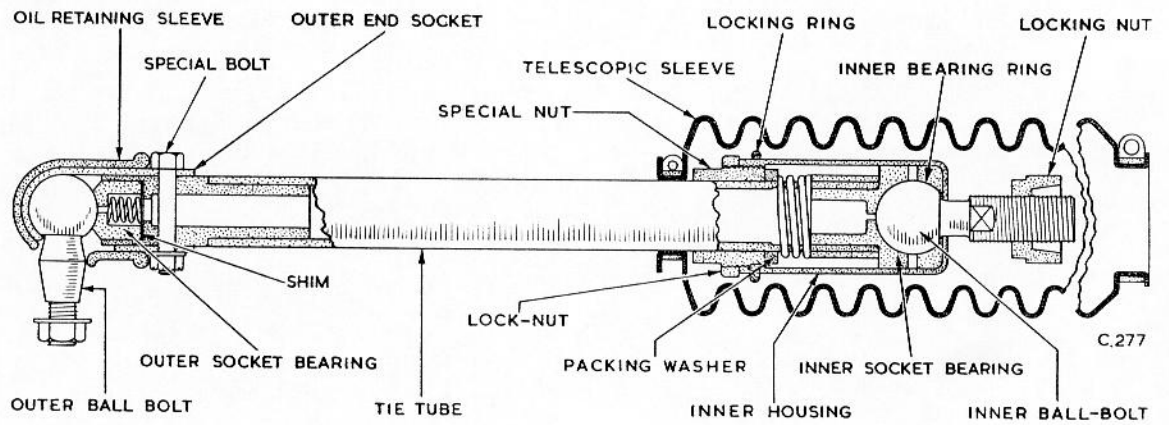

Fig.6 Tie tube assembly.
1. Withdraw the split pin; using a $\frac{1}{2}$ in. B.S.F. spanner, remove the slotted nut and washer securing each tie tube ball bolt to the steering arms, see Fig.6. Separate the ball bolts from the steering arms; these have a taper joint and it is necessary to use a suitable extractor such as TFN.5006.
To dismantle the tie tube assembly, proceed as follows, referring to Fig.6.